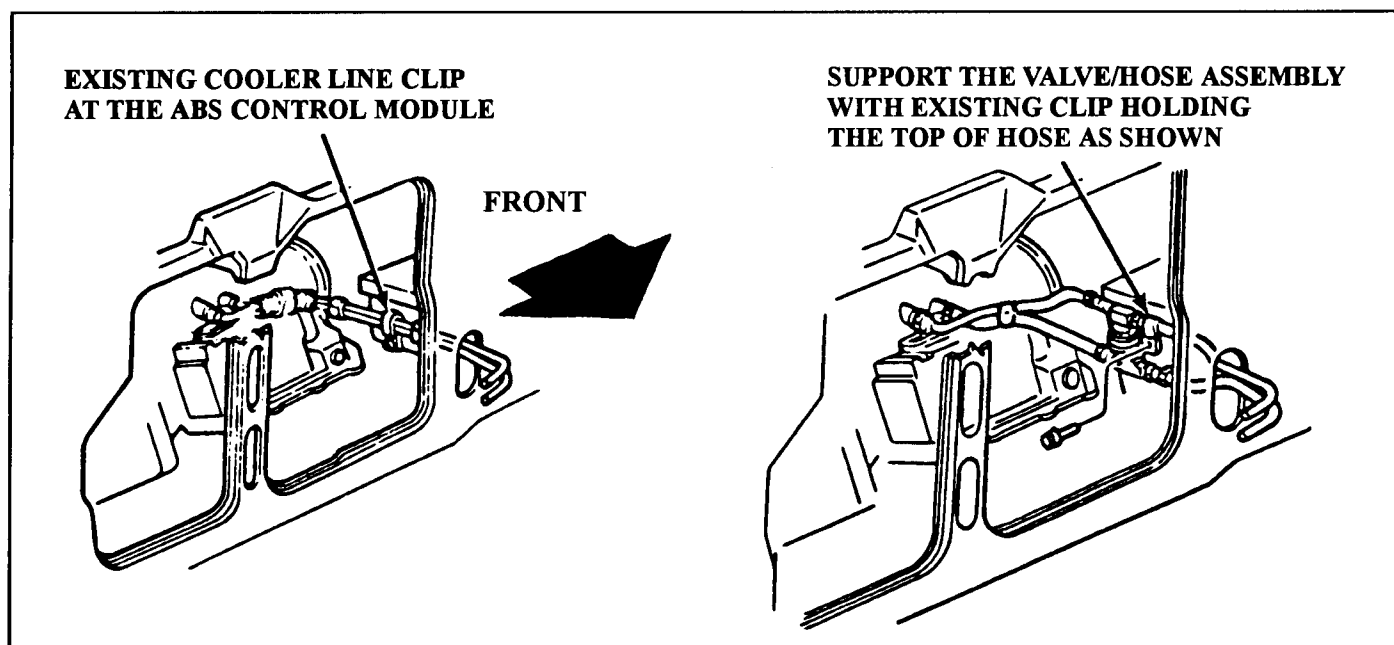

Figure 49
1. The existing cooler hoses are retained by a clip at the ABS Module, as shown in Figure 49. Drilling of a hole is not required on this model.
7. Reinstall the retaining clip to support the bypass valve assembly, as shown in Figure 49, and tighten all hose clamps and retaining clip.
8. The bypass valve assembly MUST be positioned vertically (See Figure 49).